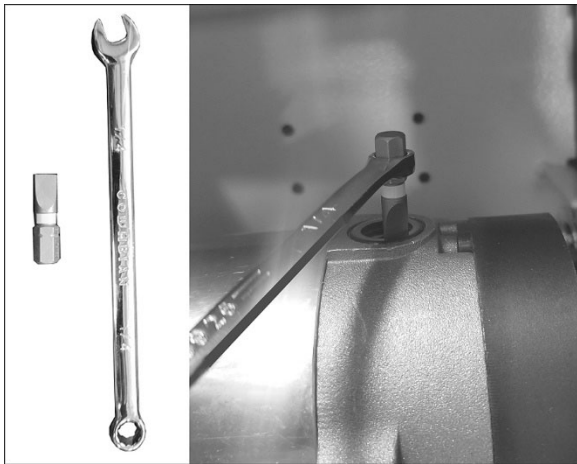

Figure 10-2
3. Adjust the support arm (Figure 10-2) and change the tool clamping position to achieve the correct grinding angle.
4. Set the tool angle and wheel diameter on supplied angle measuring device. See Figure 10-2. Tighten both knobs.
5. Use a tool to unscrew and remove cap. Note: If standard tools will not fit the space, a box wrench and flat head bit can be maneuvered successfully, as shown in Figure 10-2.